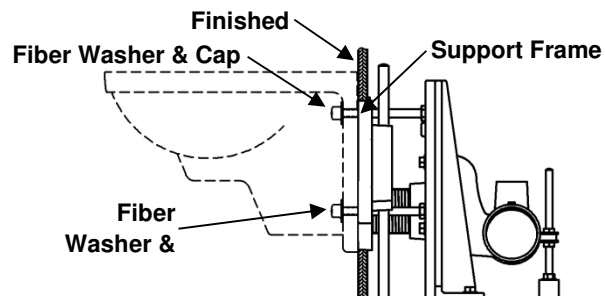

Figure 7
- 7 Assemble a fiber washer and cap nut, from the 66955-292-9 hardware bag, onto each rod and hand tighten. Secure closet with an additional half-turn using a wrench on each nut to complete the installation. See **Figure 7**.